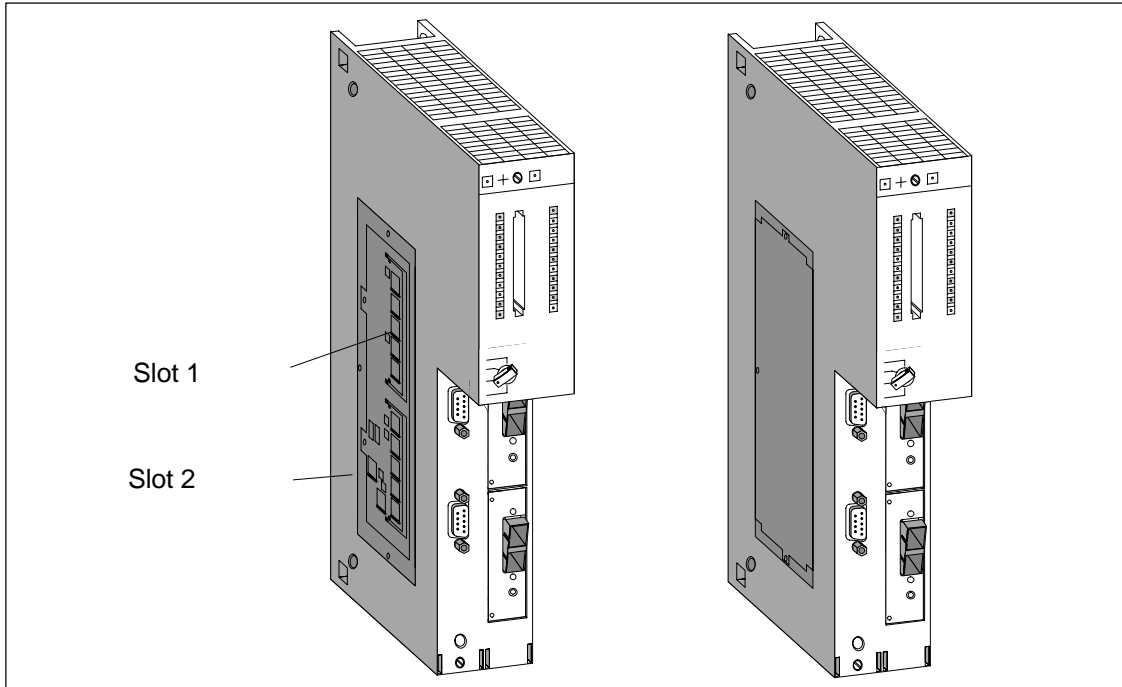

Figure 2-3 Fitting Memory Cards in the CPUs
2. Push the first memory card down through an angle of approximately 45° into slot 1 (see Figure 2-3). Note the cutout at the front of the card (polarity reversal protection).
4. If necessary, insert the second memory card in slot 2 in the same way (see Figure 2-3).